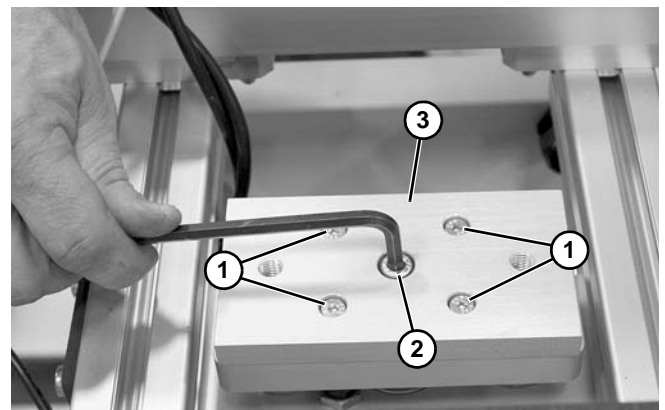

Figure 125
7. Remove socket head screws (**Figure 125, item 1**). Remove socket head screw (**Figure 125, item 2**) securing adapter plate (**Figure 125, item 3**) to cylinder shaft. Remove adapter plate.